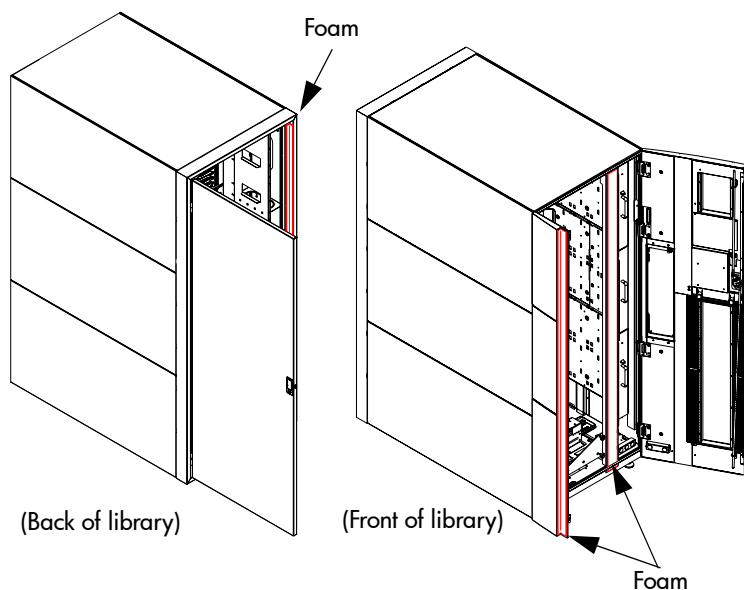

Figure 44: Adding the shipping foam inside the library
10. From the front of the library, add the foam to the Y-axis cover plate, to the left front door, and also to the back door frame (see Figure 44).